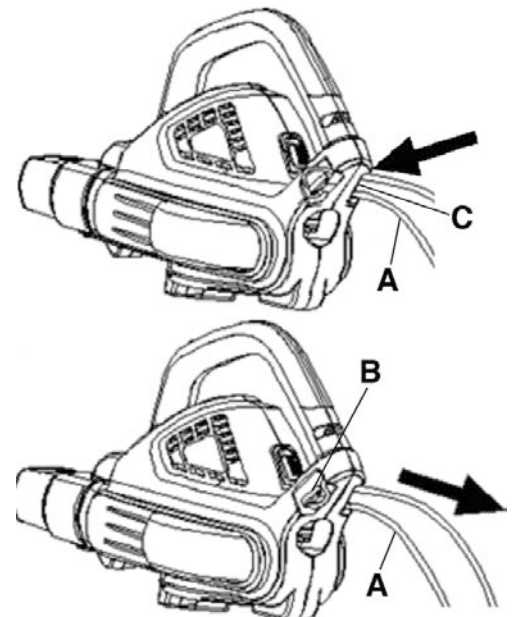

FIGURE 3
Secure the extension cord (A) Fig.3 to the extension cord lock (B) on the motor housing. First bend the end of the extension cord and then pass it through the cord lock opening (C). Then slip the extension cord around the "T" notch cord lock (B) and pull on the extension cord to get a tight fit. This will prevent accidental unplugging of the extension cord during use. Then plug the female end of the extension cord into the tool's polarized plug.